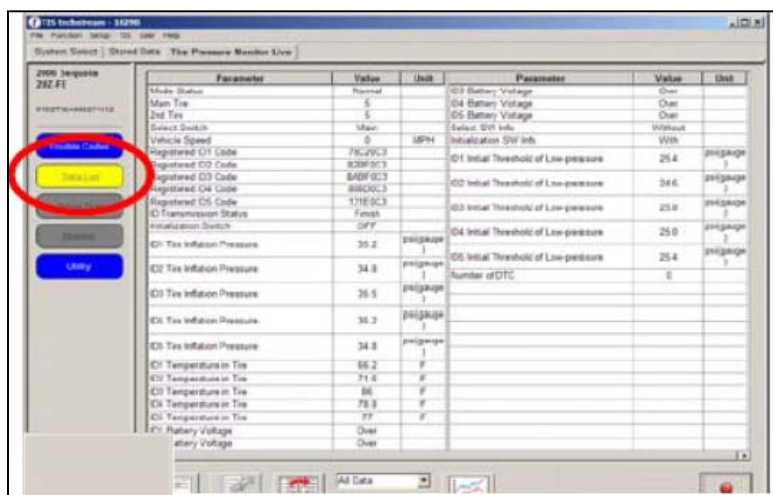

Figure 14i
- l. Select “Data List” to view & confirm the TPMS ID has been correctly registered. See Figure 14i.